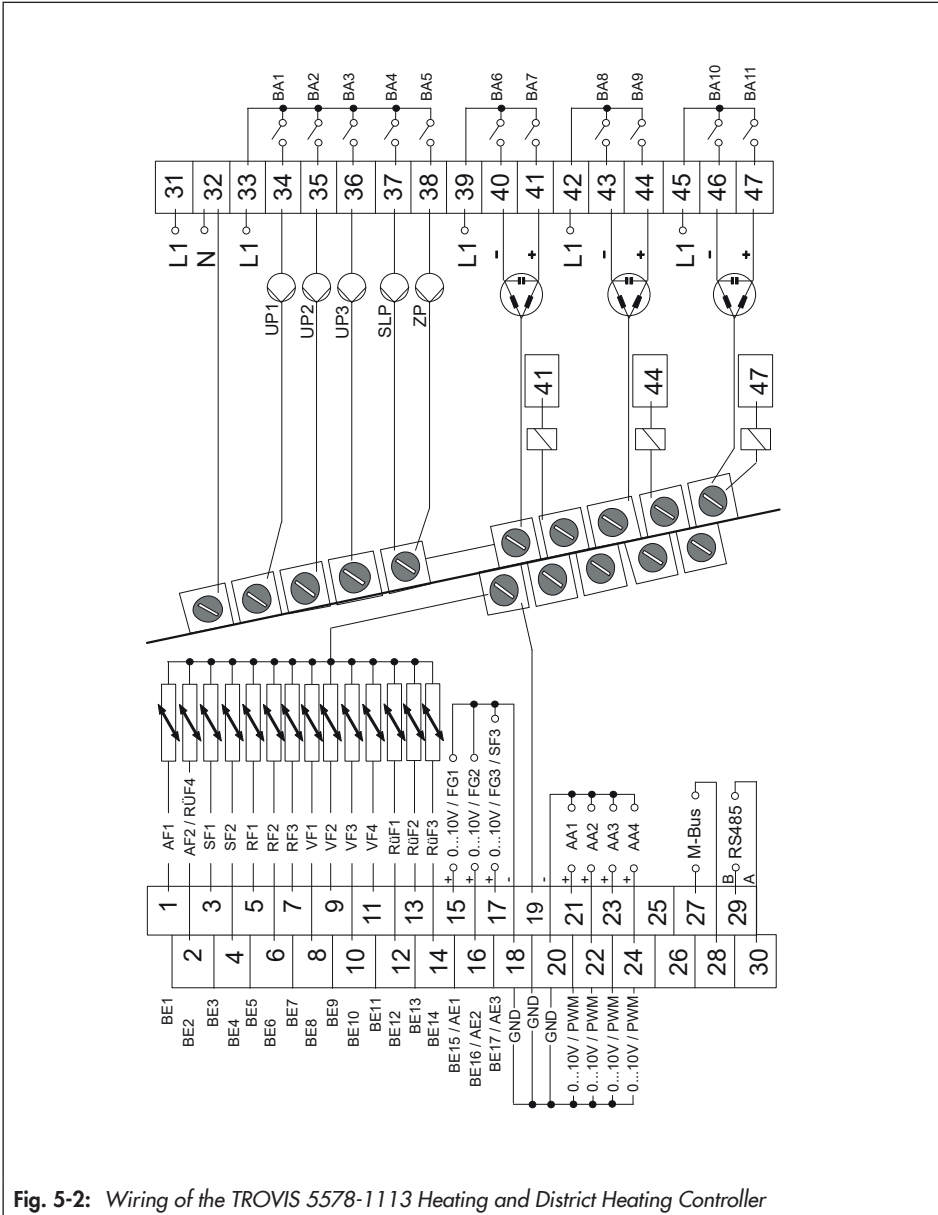

Fig. 5-2: Wiring of the TROVIS 5578-1113 Heating and District Heating Controller
- Connect the wiring as shown in Fig. 5-2 (TROVIS 5578-1113) or Fig. 5-3 (TROVIS 5578-1114).
Legend for Fig. 5-2: